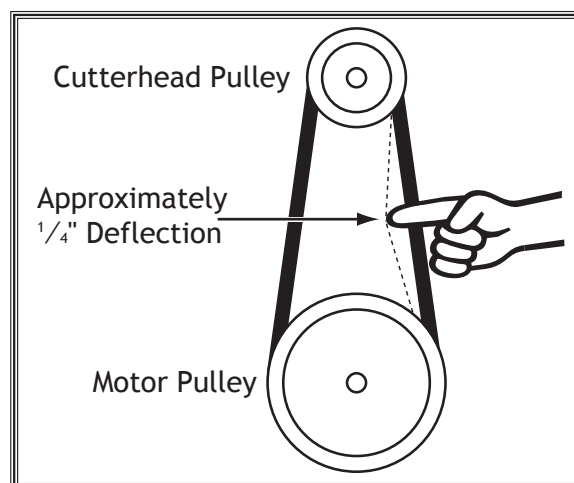

Figure 65. Checking belt deflection.
5. Press belt with moderate pressure in center to check belt tension. Belt is correctly tensioned when there is approximately $\frac{1}{4}$ " deflection when pushed, as shown in **Figure 65**.